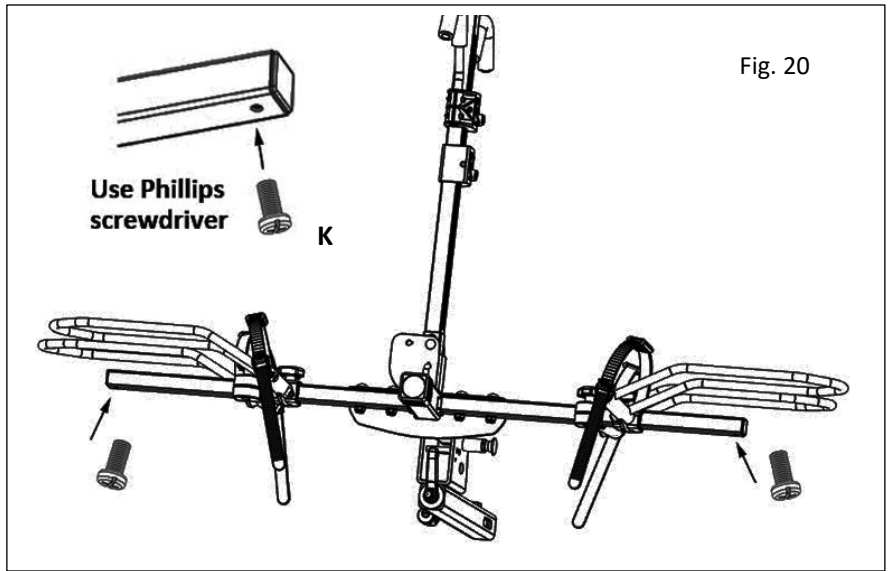

Fig. 20
After determining the final position of the wheel holders, install the two stop screws (K) into the bottom of the wheel tubes as indicated in Fig. 20. Use Phillips screwdriver.